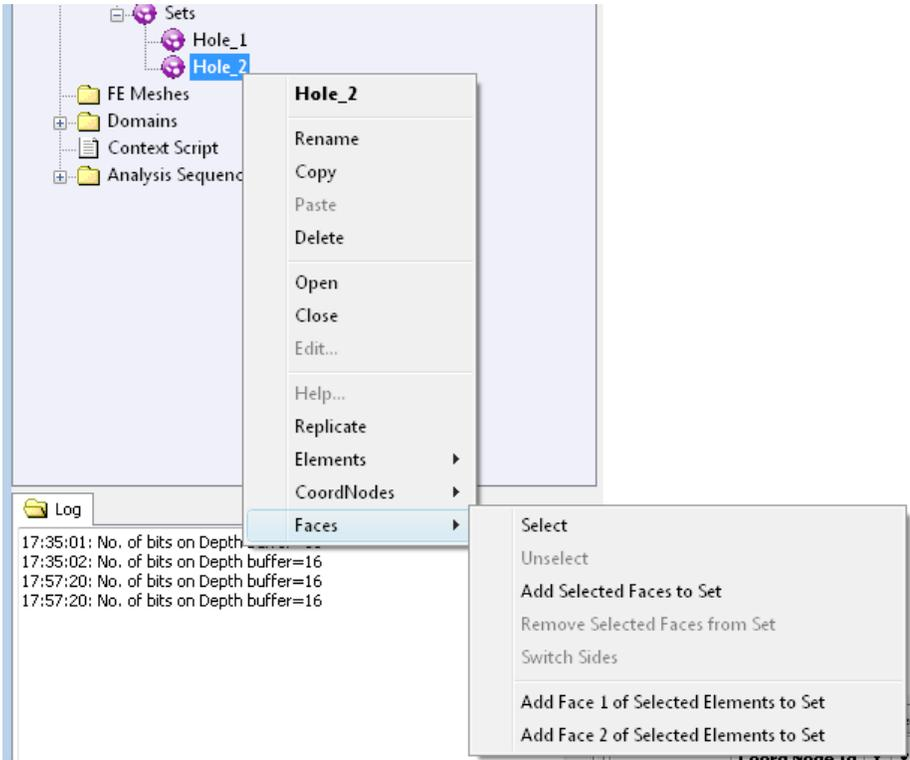

Figure 4.38 Menu options for faces in a Set.
**Faces** Right-click on <Set Name> and select **Faces** to find the following sub-menu options. Note that all the options are disabled when the mesh is not open in the GUI. Figure 4.38.